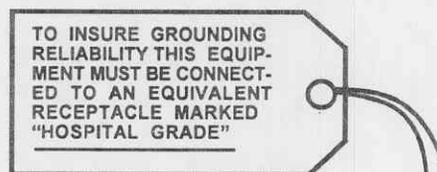

Figure 1-11. Cardboard instruction tag.
(5) A cardboard tag (fastened to the electrical power cable assembly) providing electrical ground information is depicted in figure 1-11.